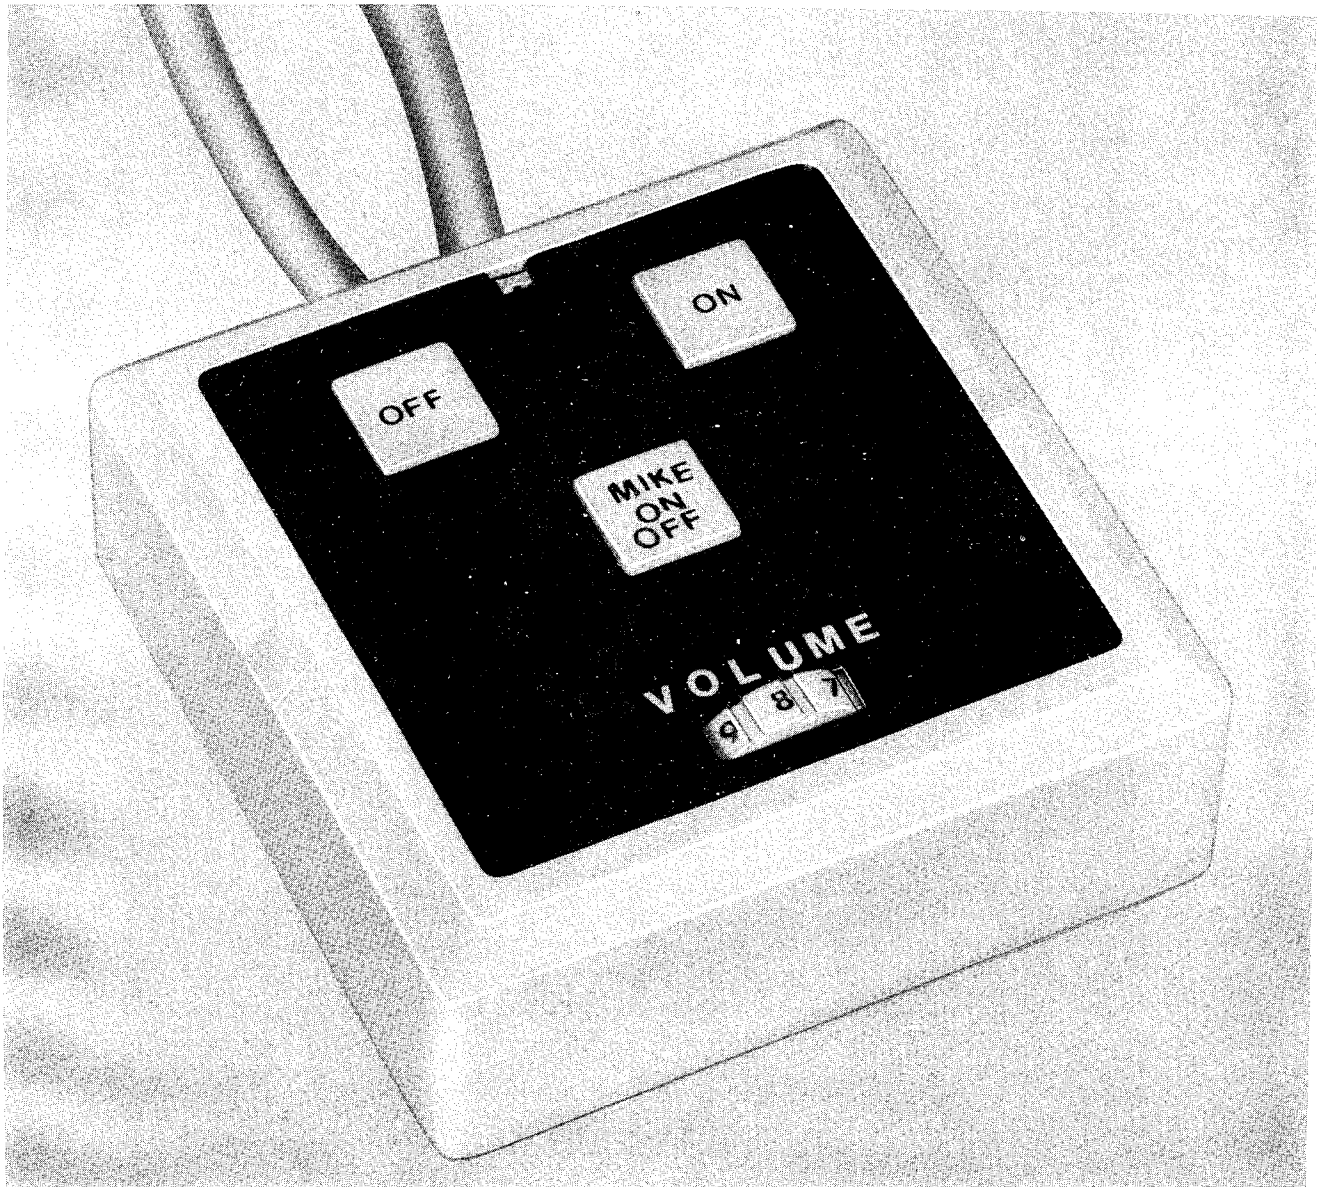

Fig. 5—106A Control Unit
2.03 The 106A control unit (ivory with black faceplate) contains a volume control potentiometer, ON and OFF pushbuttons with associated LED, and a locking (MIKE ON OFF) button (Fig. 5).